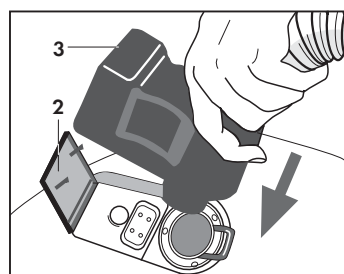

Fig. 8
- Open the door (2) that gives access to the accessory socket (D) and fit the quick connection (3) of the hose (or steam iron) to the socket on the front of the appliance; press the element in as far as it will go. (Fig. 8).
- You can also attach the quick connection (3) to the rear blow socket (O) by following the steps described in figures 8 and 9. First, you will need to remove the muffler (P). No steam or detergent can be delivered through this socket.
Before disconnecting the quick connection (3) of the hose (Fig. 8) from the (D) or (O) socket, turn off the boiler (B) and accessory (M) switches and unplug the appliance.